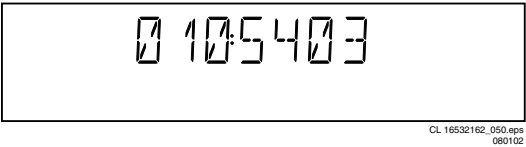

Figure 5-34
The loop test will perform the same nuclei as the dealer test, but it will loop through the list of nuclei indefinitely. The display of the DVD player will display not only the three digits indicating correct/faulty modules and the last found error code (as mentioned, faults are detected as far as they can be within the scope of the diagnostic software), but also a loop counter indicating how many times the loop has been gone through. If an error was detected, the display will remain as in figure 5-34 until the user presses the PLAY key and then it will continue to the next loop. Example:
After one loop cycle: Display the 3-digit module bits together with the last error code which occurred in the loop test. The 4 digits at the right side of the display (fig. 5-34) show the last error that was found during the loop test. The leftmost two digits (54) of this code indicates which nucleus resulted in a fault. The rightmost two digits (03) refer to the faultcode within that nucleus. For further explanation of this error code, refer to chapter 5.8 (Nuclei Error Codes).